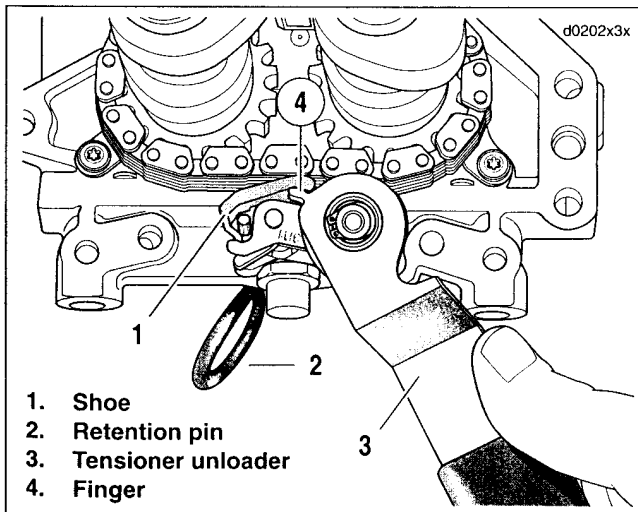

Figure 3-66. Securing Cam Chain Tensioner
- See Figure 3-66. Eliminate secondary cam chain tension. For best results, place cam support plate in a vise using brass jaw inserts to prevent casting damage.
- Place cup of CAM CHAIN TENSIONER UNLOADER (3) (Part No. HD-42313) over spring coil of secondary cam chain tensioner. Position finger (4) on tool between tensioner and shoe (1).
- Rotate tool in a counterclockwise direction. Insert retention pin (2) through hole in boss on primary cam chain side of cam support plate. Pin engages hooks on tensioner to hold it in the retracted position.